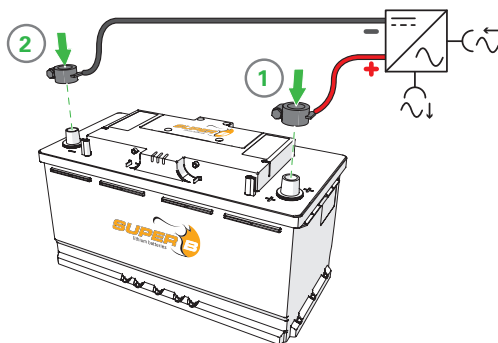

Figure 12. Connecting power cables with automotive type .
2. Connect the load or charger to the X2 (+) terminal of the Li-ion battery. (Figure 12)
3. Connect the load or charger to the X1 (-) terminal of the Li-ion battery. (Figure 12)